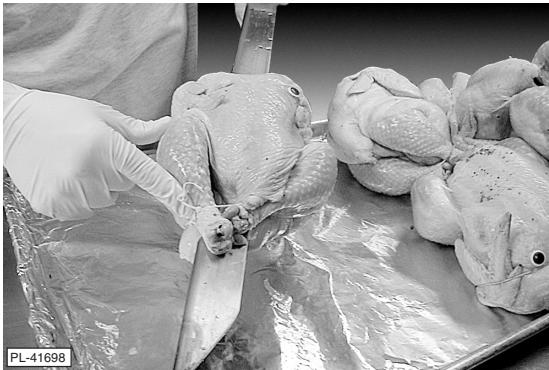

**Fig. 18**
- Bring tie to front, holding the wings to the side of the chicken (Fig. 18).